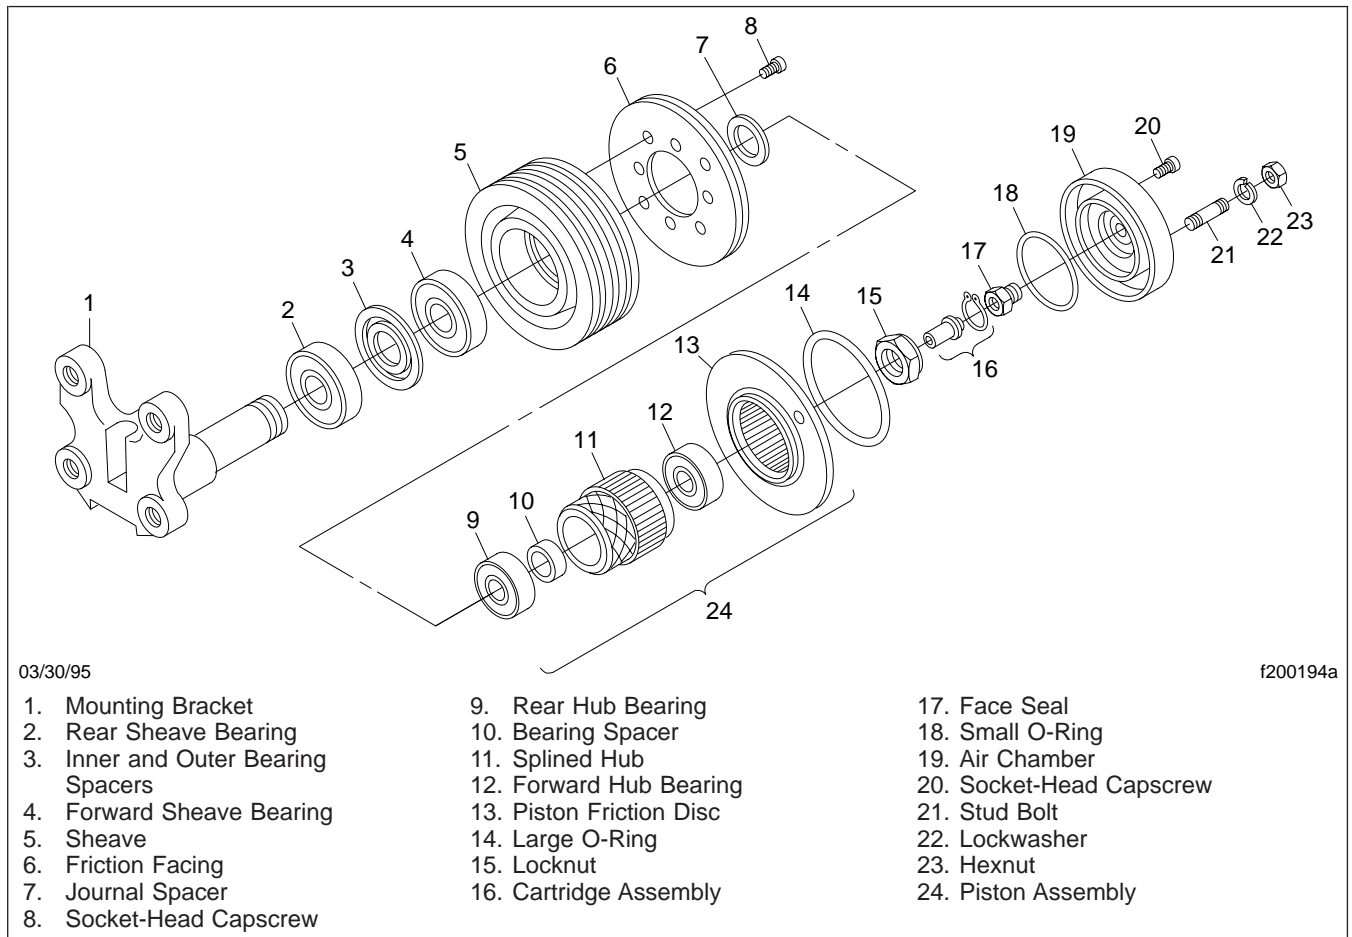

Fig. 6, Horton Advantage Fan Clutch Components
- 9.1 Check for a leak at the bleed hole on the fan pilot. Air leakage means that the cartridge assembly (see **Fig. 6**, Ref. 16) or face seal (Ref. 17) is damaged.